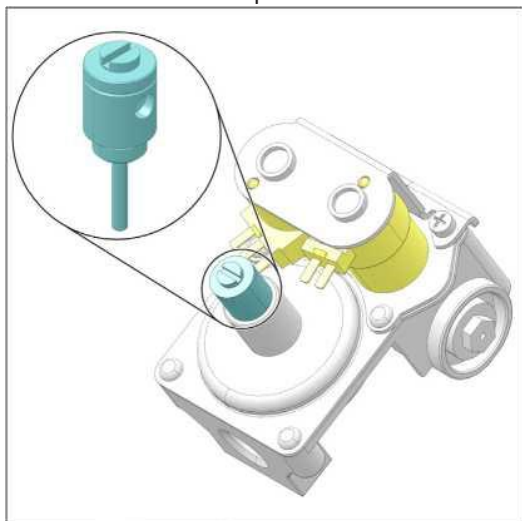

Figure 1 - Style "A" Blocking Pin
6. Remove the vent cap (leak limiting device) from the pressure regulator. See figure 1 below for style "A".